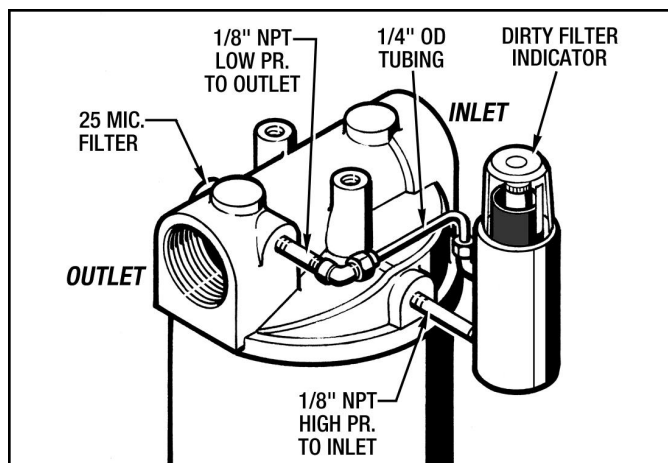

Figure 4 - Installing Dirty Filter Indicator
2. A Pressure Differential (*Dirty Filter*) Indicator (#201) is installed on the filter as shown in Figure 4.